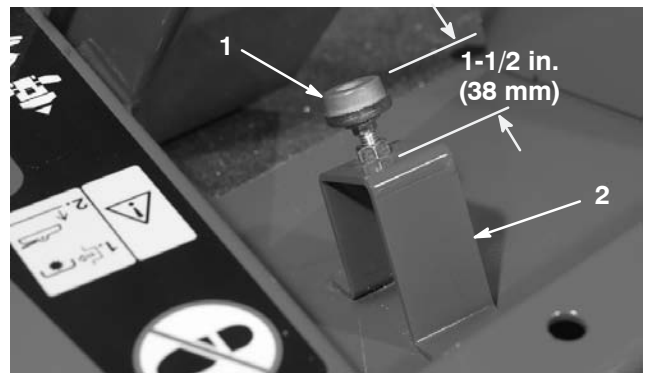

Figure 65
2. Check the traction pedal stop adjustment. The distance from the top of the stand to the top of the stop must be 1-1/2 in. (38 mm) (Fig. 65). Loosen the nuts and adjust, as required.